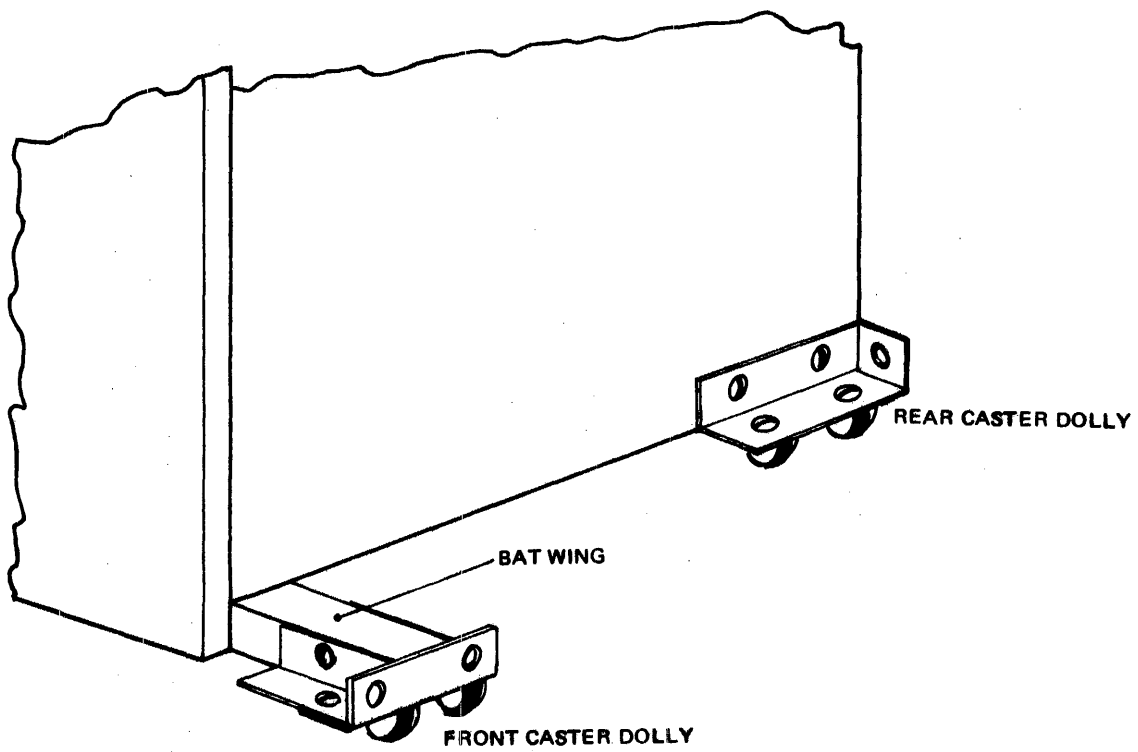

Figure 2-5. Processing Unit Transport Dollies
6. Remove transport dollies under Processing Unit (Figure 2-5) as follows: